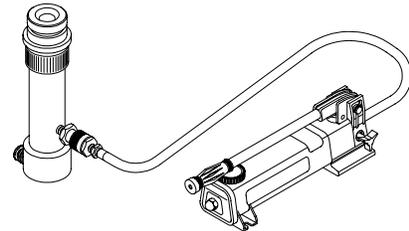

Figure 1-19. 10 Ton Hydraulic Cylinder and Pump
e. **10 Ton Hydraulic Cylinder and Pump**. The 10 ton hydraulic cylinder and pump is available with either a 4" (10.2 cm) (Part Number 22-796600) or a 6" (15.2 cm) (Part Number 22-796700) stroke. The cylinder is used as an extendible jacking device and is normally installed between extensions and base plates as shown in figure 1-19.